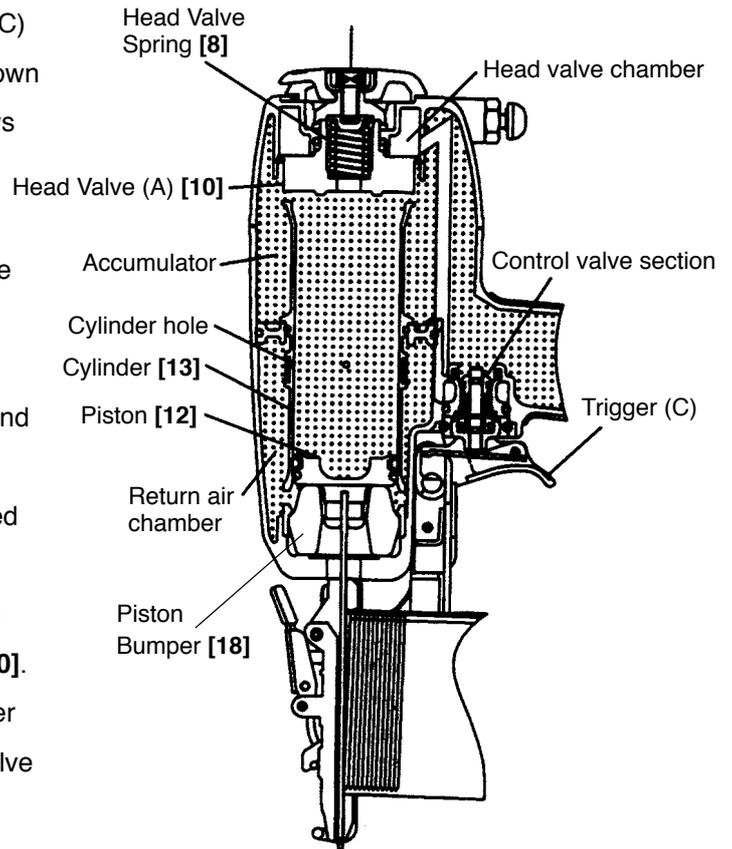
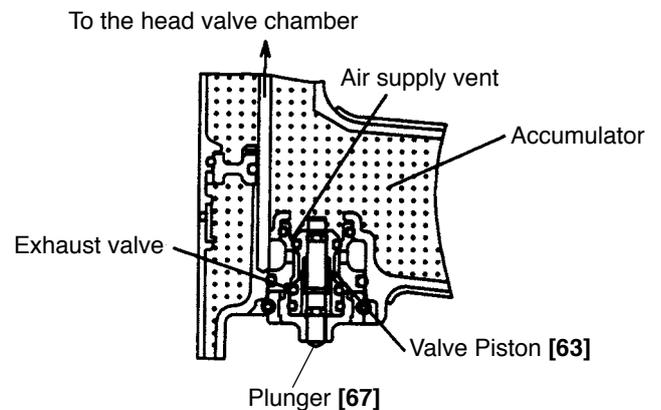

Fig. 6
Fig. 7 Control valve section
(3) During return (See Fig. 6 and Fig. 7.)
- 1) Immediately after driving the first nail, the control valve should be as shown in Fig. 7.
Accordingly, the Piston [12] remains in the lowered position as shown in Fig. 6.
- 1) Immediately after the first nail is driven, the control valve should be as shown in Fig. 7.